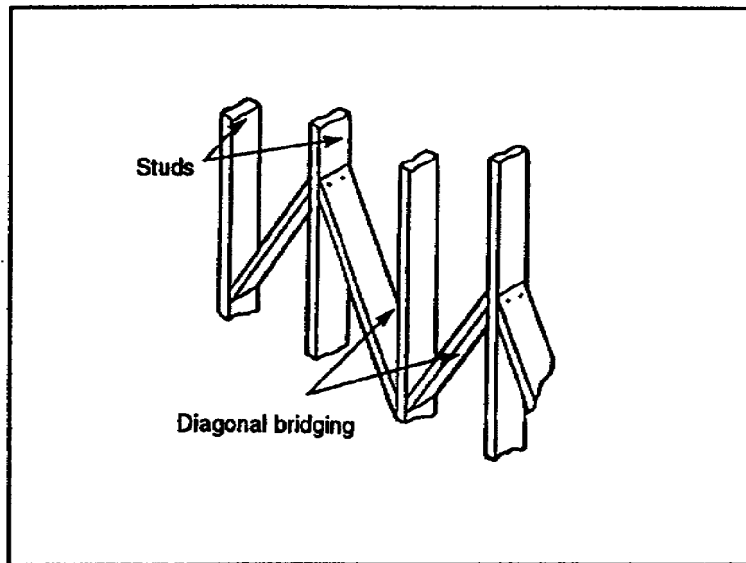

Figure 2-15. Diagonal bridging
a. **Diagonal Bridging.** Diagonal bridging is nailed at an angle between the studs (see Figure 2-15, page 2-12). It is more effective than the horizontal type because it forms a continuous truss and keeps the wall from sagging. Whenever possible, both interior partitions and exterior walls should be bridged alike.